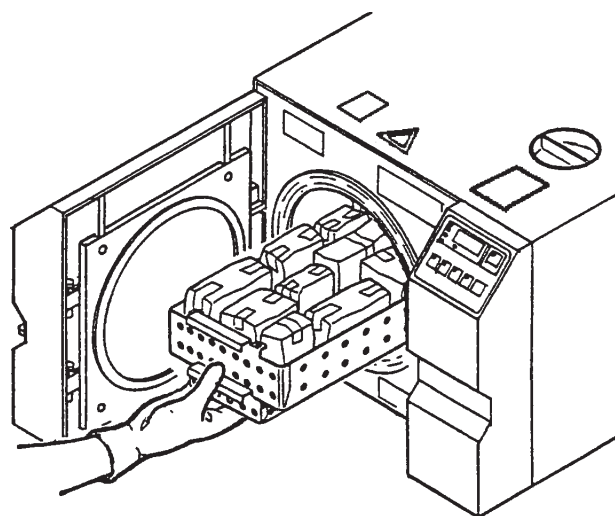

**Figure 3B-15**
2. Carefully insert trays into the sterilizing chamber (Figure 3B-15).
The following procedure is used to initiate a sterilization cycle for nonliquid goods. See Table 3B-1 for preprogrammed times and temperatures for various load types and Figure 3B-16 for touch pad locations.
1. After the door is closed, press the appropriate cycle touch pad (UNWRAPPED, WRAPPED, or PACKS). The corresponding indicator light illuminates. Display will read "FILL" (it takes 1 to 2 minutes to fill). See Figure 3B-16.
2. Next, the optional printer will print relevant data in the format shown in Figure 3B-17.